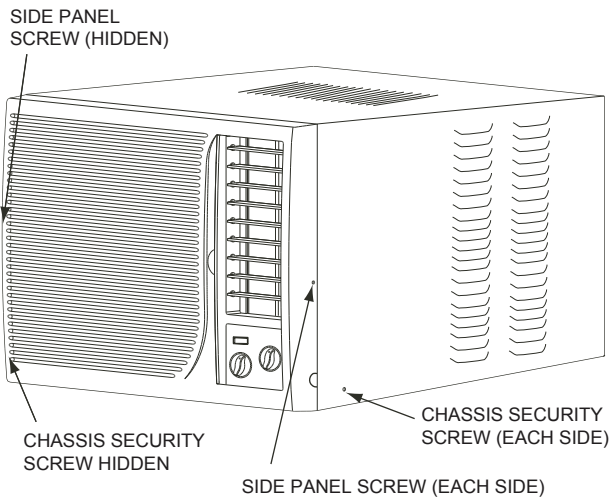
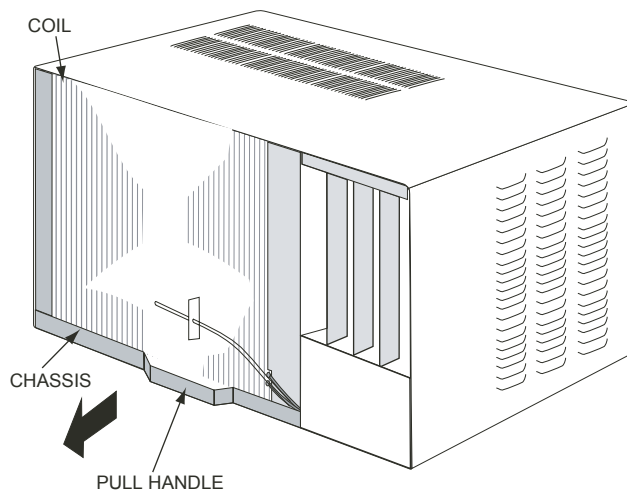

FIGURE 3 — FRONT PANEL REMOVAL
FIGURE 4 — CHASSIS REMOVAL
5. Remove the front panel of the air conditioner by removing the side panel screws (one on each side) and pulling the front panel off the air conditioner chassis. Save the screws for reinstallation. See Fig. 3.
6. Remove the chassis security screws from the sides of the cabinet. Save screws. See Fig. 3. A pull handle is provided for chassis removal. Gently slide the chassis from the cabinet by pulling on the handle. The chassis is heavy and assistance may be required. Take care not to bend or damage the coil fins on the chassis. See Fig. 4.